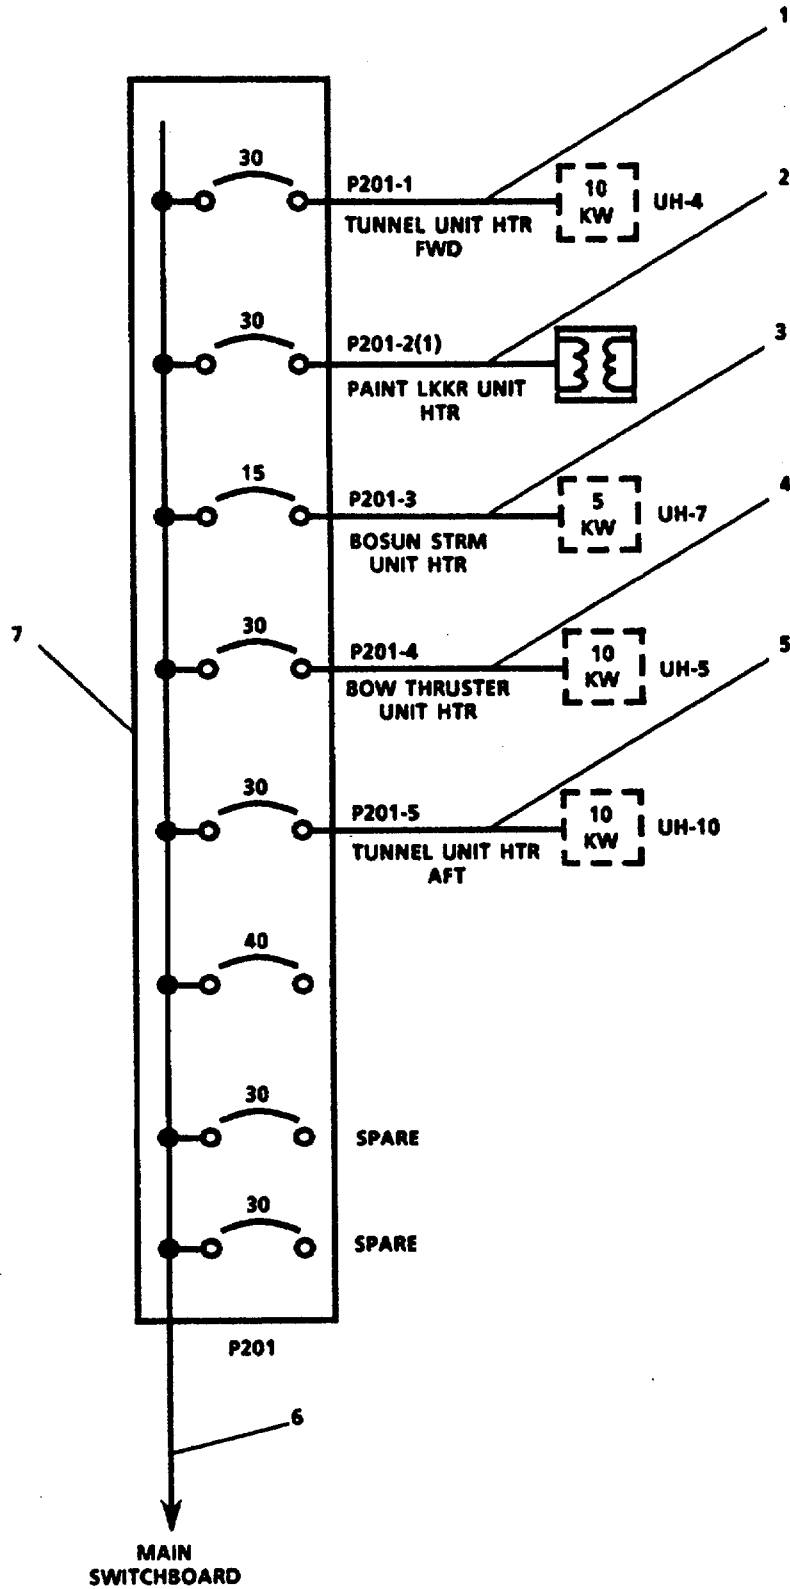

FIGURE 3-129. Power Distribution Panel (P201).
**3-143. Repair Power Distribution Panel P201. (Figure 3-129)**